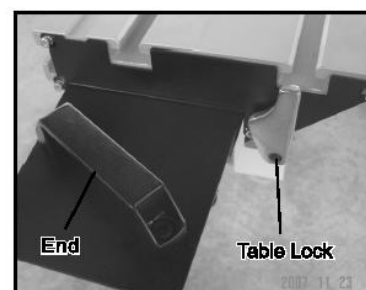

Fig. 27
3. Install the end handle (Fig. 27) , using the remaining screws, the sliding table is locked in place when the table lock is in the position(Fig. 27), rotate the table lock angle to unlock the sliding table.